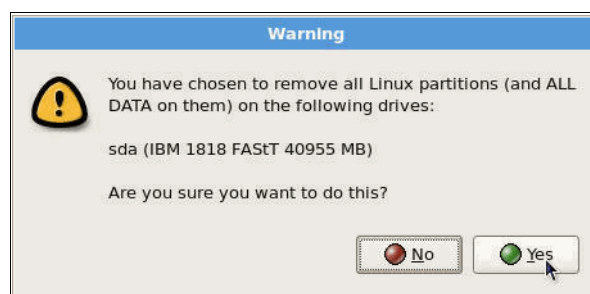

Figure 2-111 RHEL confirm partition removal
4. We now need to confirm the removal of all Linux partitions (and ALL DATA on them). Here we need to make sure that it is the correct drive, and after it is verified, we click **Yes**, as shown in Figure 2-111.